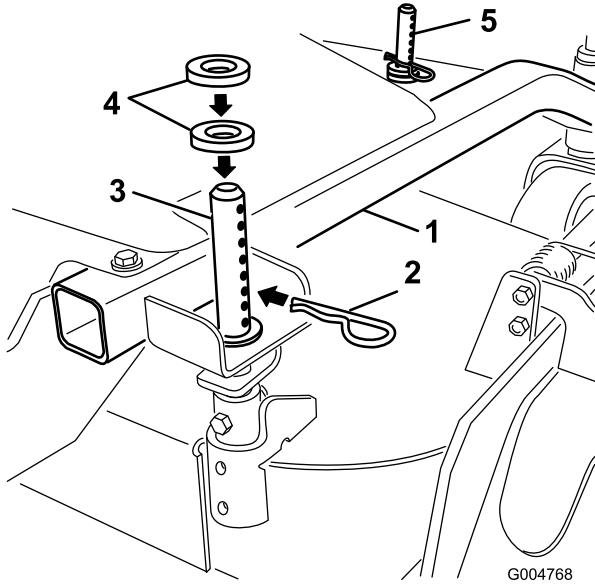

Figure 15
1. Select the hole height-of-cut post and number of spacers corresponding to the height-of-cut desired (Figure 15).
2. Using the lift handle, raise side of deck, and remove the hairpin cotter (Figure 15).
3. Add or remove spacers if needed, align the holes, and insert the hairpin cotter (Figure 15).